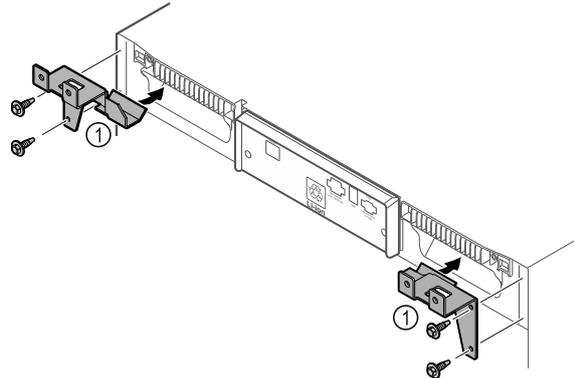

Fig. 50
- ▶ Fit the retaining parts Fig. 50 (1) to the device with self-tapping screws.